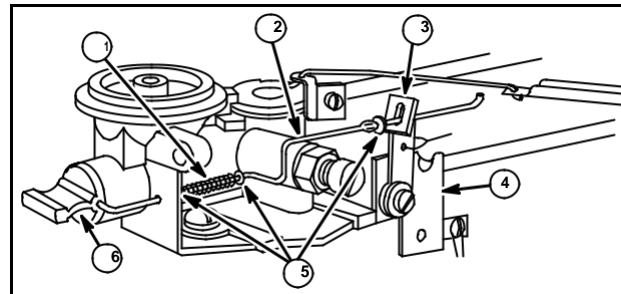

Fig. 72
1. To remove choke link (2), remove speed adjustment lever (3) and stop switch insulator plate (4).
3. Then pull out choke link through hole in choke slide (6), Fig. 72.
- Washers (5)